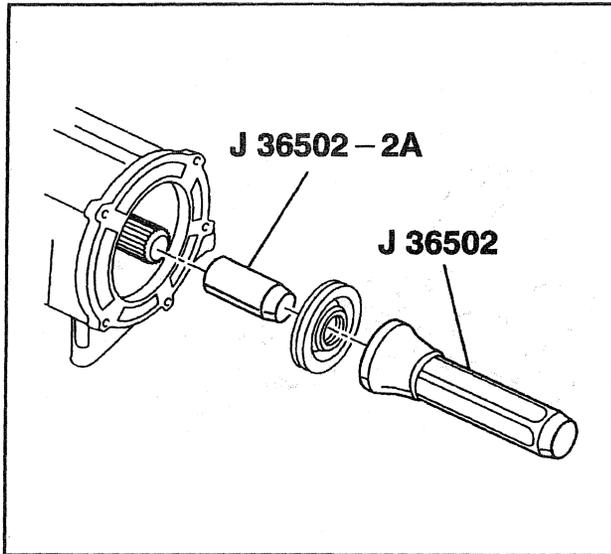

Figure 9—Extension Housing Seal Installation (4WD Models)
**Install or Connect (Figure 9)**
1. New seal, using J 36502-1 (figure 9).